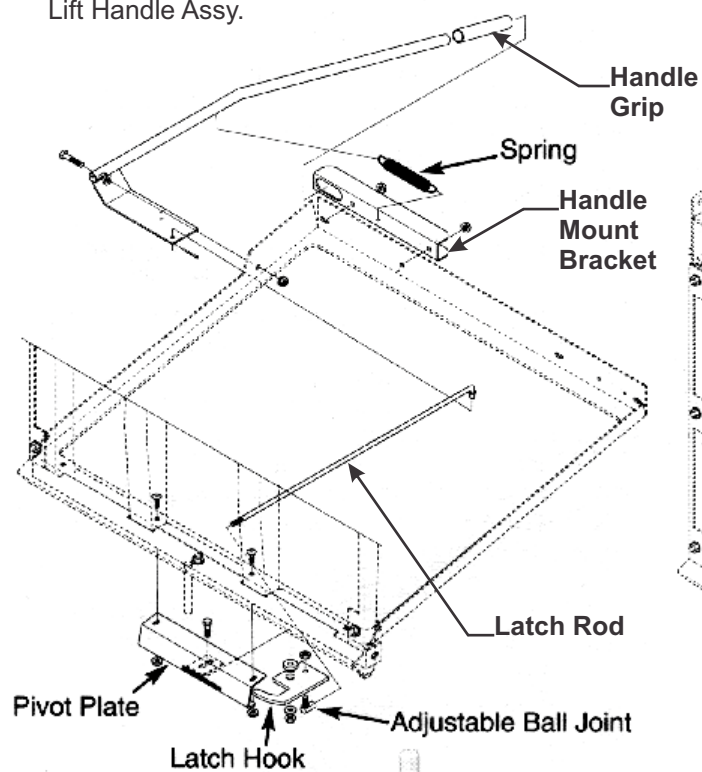

Figure 6
Before attaching the handle, hook one end of the spring P#(J0176) into the hole on the underside of the handle. Hook the other end of the spring into the open hole in the handle mount bracket. Fasten the handle to the grass container frame by using (1) 3/8"-16 x 2" HHCS P#(K1208) and (2) 3/8"-16 flange nuts P#(K1215). At this point the handle can pivot back and forth in the slot of the handle mount bracket. With the handle in place, fasten the ball joint P#(K1442) to the end of the latch rod P#(A0260) (Figure 6). Tighten to approximately half way down the threads of the latch rod. Slide the ball joint into the hole on the latch hook P#(B1529). Use (1) 5/16"-24 HHCS P#(K1444) and (1) 5/16" lock washer P#(K0043) to fasten the ball joint to the latch hook. Attach the opposite end of the latch rod into the handle. Fasten the rod to the handle by using (1) 3/32" x 3/4" cotter pin P#(K0094). Adjust the rod to allow the hook to close the box door completely.